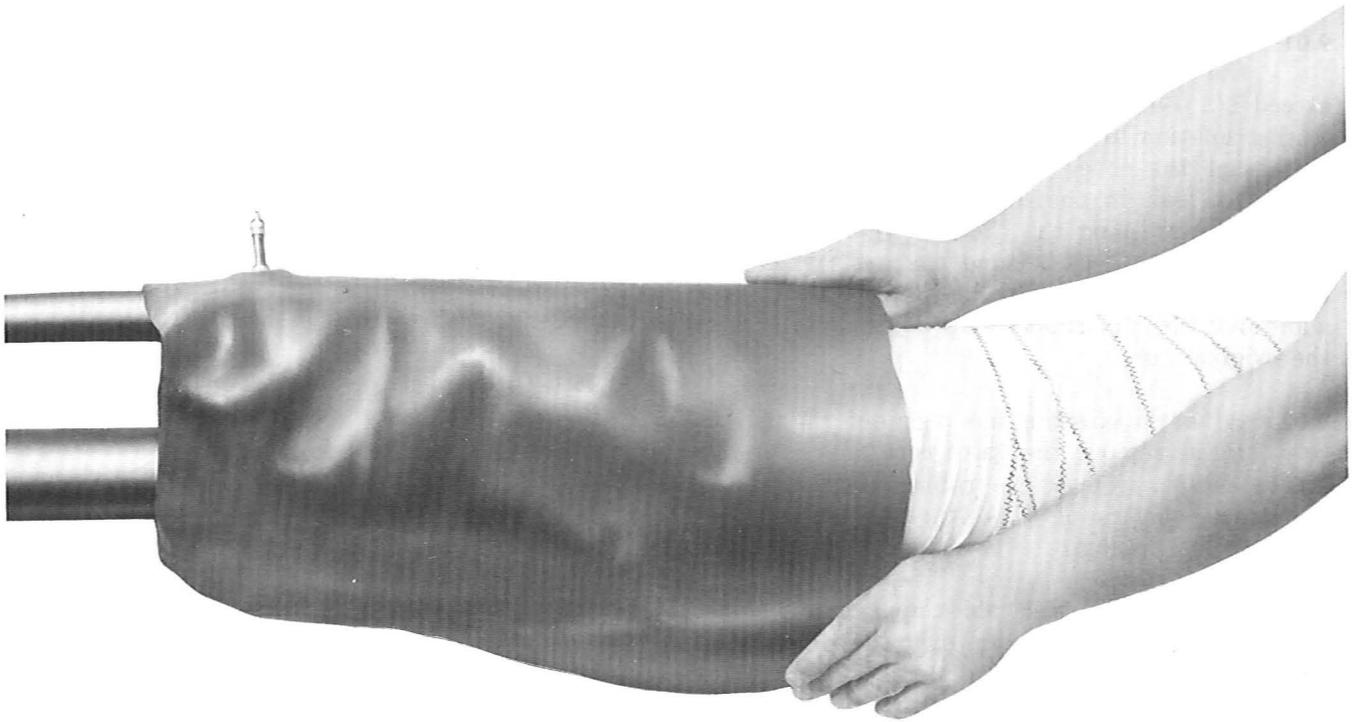

Fig. 21—Reclosing CR Tape Cover
- (1) Grasp the CR tape cover on both sides of the splice as shown in Fig. 21 and pull the cover slowly back into place.
- (2) Place two layers of 1-1/2 inch B sealing tape on the cable sheath so the outer edge is 1/2 inch inside the end of the CR tape.